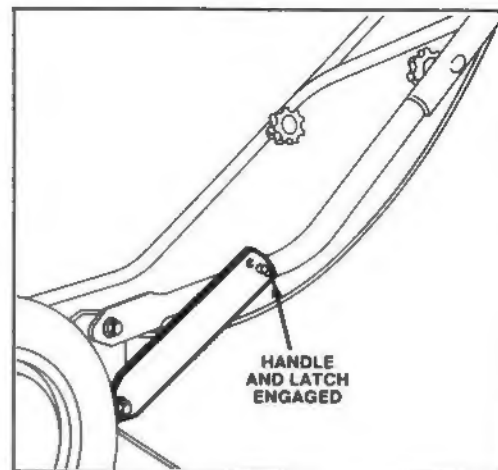

Figure 2
2. Pivot handle backward until handle stud snaps into center hole of handle latch (Fig. 2). Assure control cables are to the rear and inside of handles.